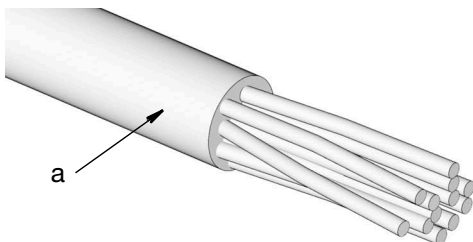

FIG. 1
2. Remove 2 to 3 inches of the outer insulation (a) from bare end of the cable as shown FIG. 1.